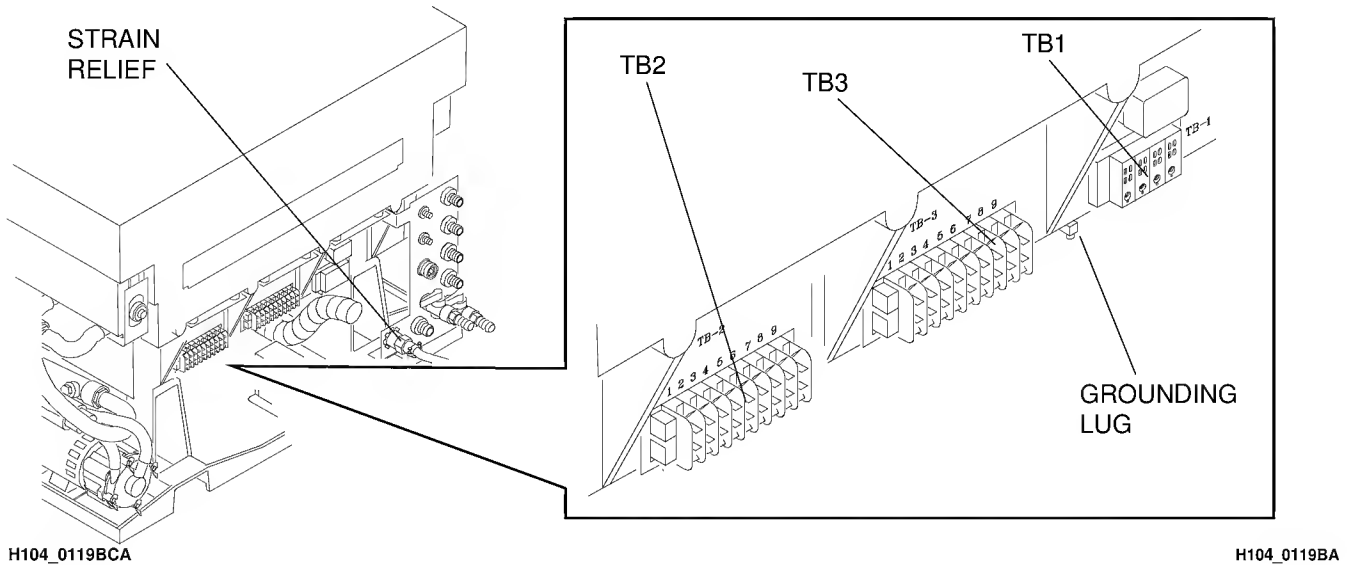

Figure 18 Connecting the Electrical Supply
- [5] Install the STRAIN RELIEF. See Figure 18 on page 18.